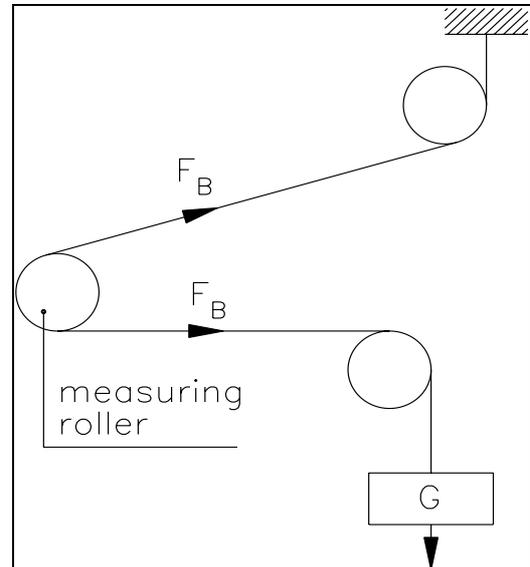

fig. 13: Calibration measuring amplifier
The following instructions are referring to a setup and calibration on-site. The material tension will be simulated by a weight (fig. 13).
- Load material or rope with a defined weight (fig. 13)